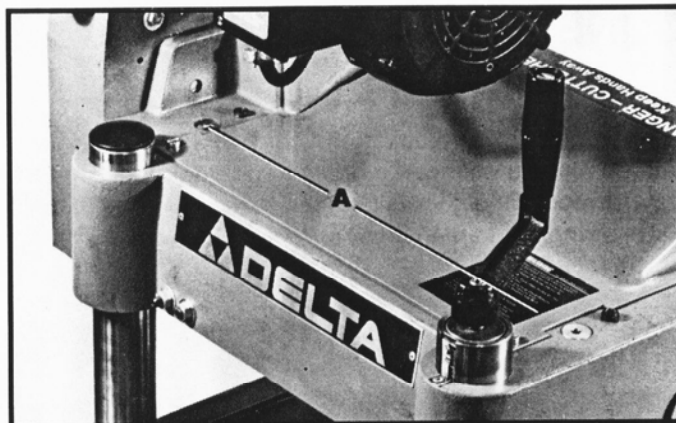

Fig. 34
To adjust spring tension of the infeed roll turn screws (A) Fig. 34. Turning screws (A) clockwise will increase and counterclockwise will decrease spring tension.